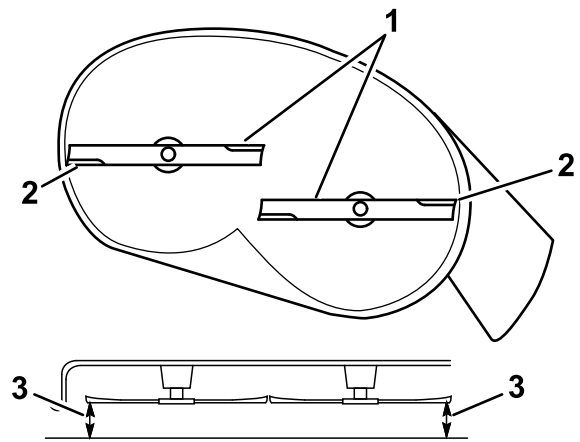
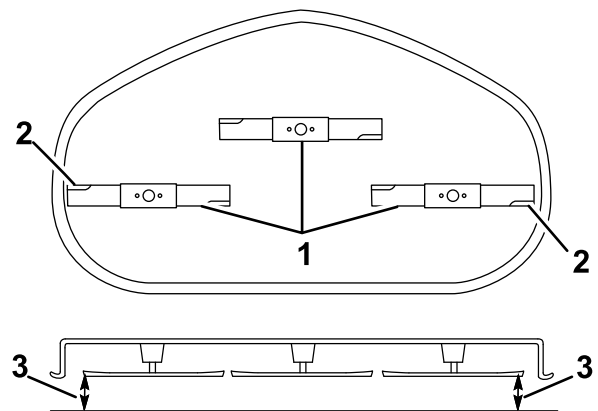

Figure 61
Figure 62
5. Measure between the outside cutting edges and the flat surface (Figure 61 and Figure 62).